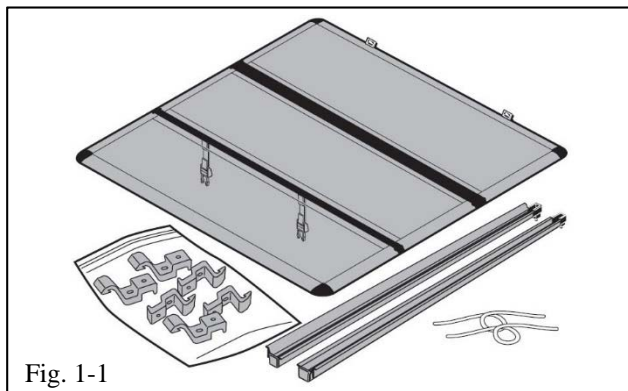

Fig. 1-1
**STOP** (b) Remove the Tonneau Cover, Side Rails, Drain Tubes and Hardware Bag from the packaging. Identify the parts and check the contents for any damage (Fig. 1-1).